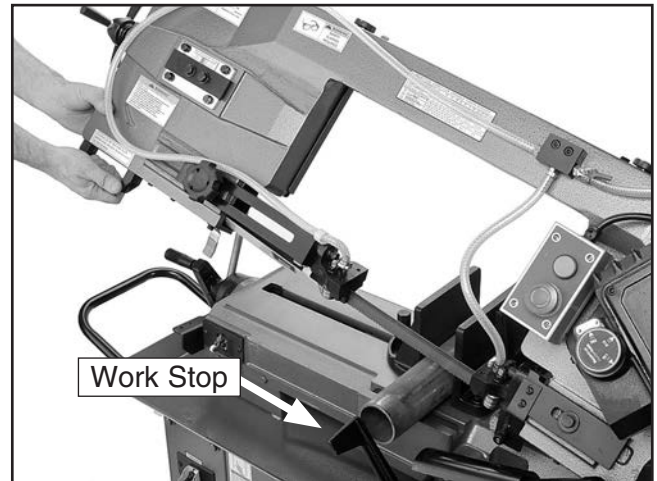

Figure 22. Proper starting position.
- Let the blade reach full speed before engaging the workpiece. Never start a cut with the blade in contact with the workpiece (see **Figure 22**).